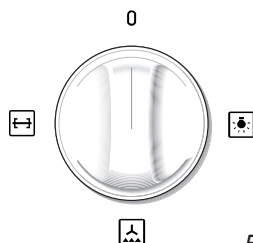

Fig. 2.6a
The fan is controlled by a knob (fig. 2.6a, 2.6b or 2.6c).
- To operate the fan motor turn the knob indicated in fig. 2.6a, 2.6b or 2.6c to  or  position. (In the position  also the rotisserie motor is operating).
To light the oven lamp turn the knob (fig. 2.6a, 2.6b, 2.6c or 2.9a or 2.9b) to the symbol .
The rotisserie motor is operated by a switch knob (fig. 2.6a or 2.9b-  or  position).